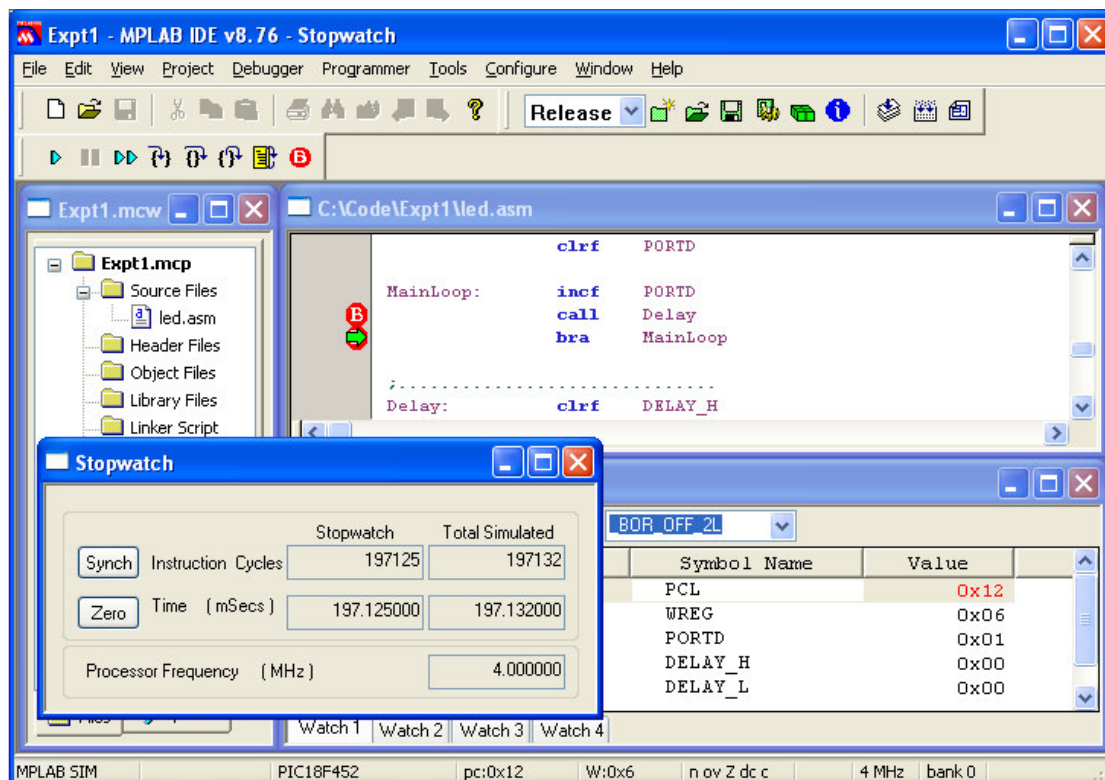

Figure 14 – MPSIM with Stopwatch
30. Reload the code used in Task #1 (Fig. 8). Set two breakpoints at locations before and after the subroutine DELAY (see Fig. 14). Click “Debugger”, “Setting...”, “OSC / Trace”, set Processor Frequency to “4” MHz. and click “OK”.